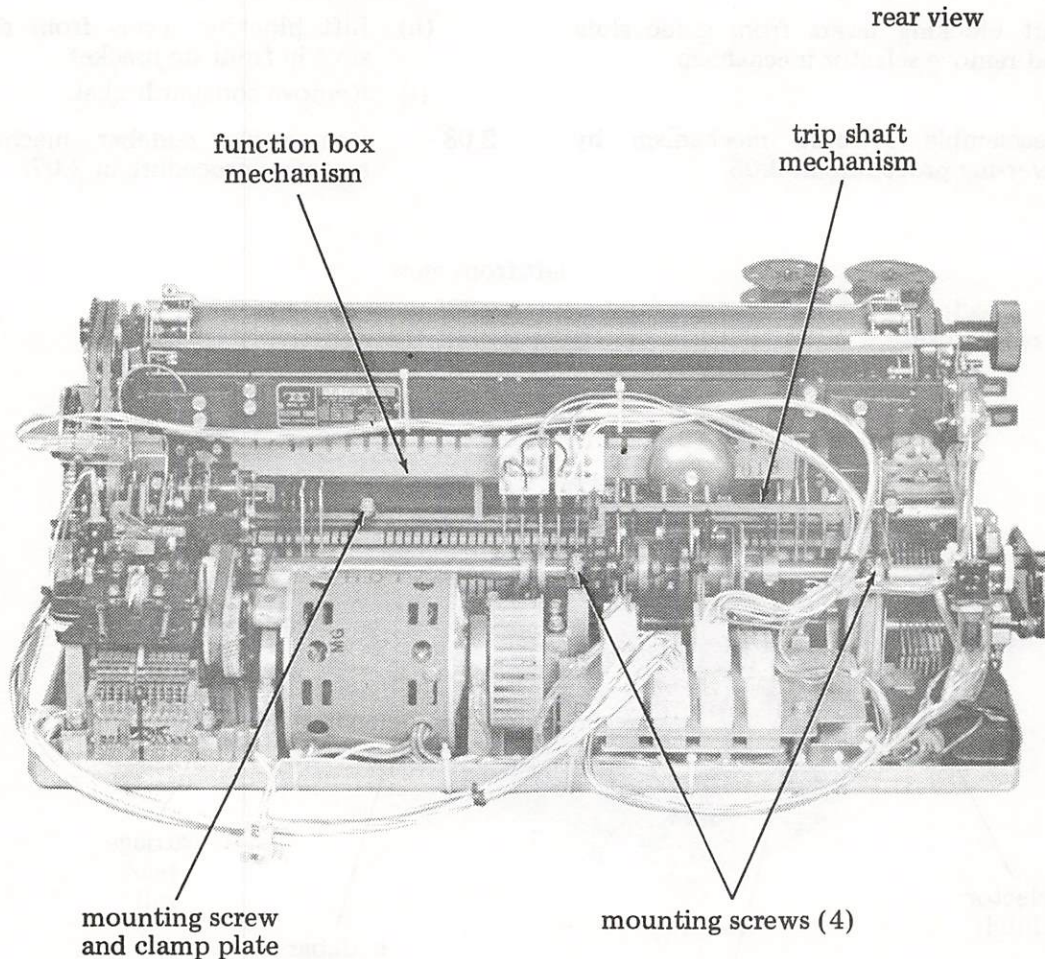

Figure 3 - Function Box and Trip Shaft Mechanisms
- 2.09 Disassemble function box mechanism (Figure 3) as follows:
- 2.11 Disassemble trip shaft mechanism (Figure 3) as follows: